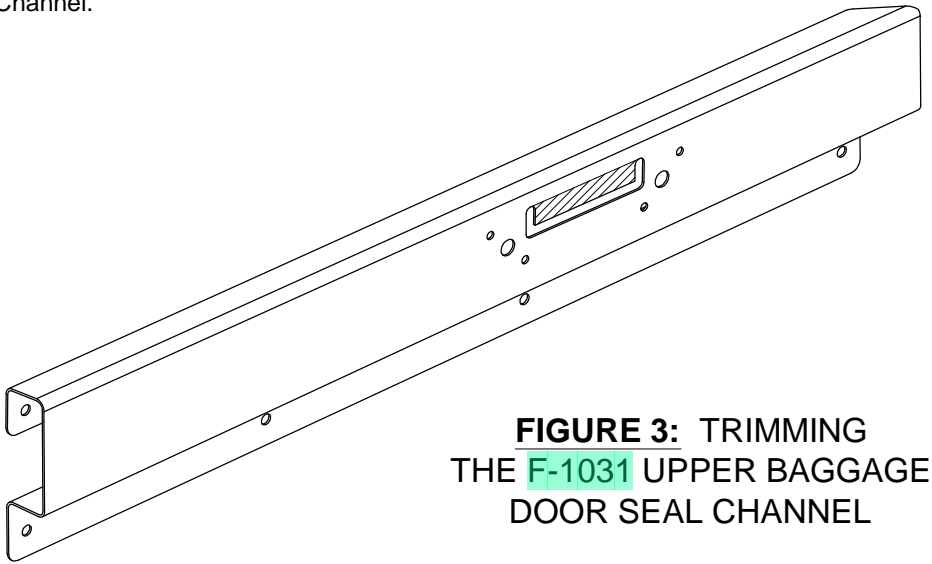

FIGURE 3: TRIMMING THE F-1031 UPPER BAGGAGE DOOR SEAL CHANNEL
Step 5: Trim the shaded area shown in Figure 3 from the F-1031 Upper Baggage Door Seal Channel.